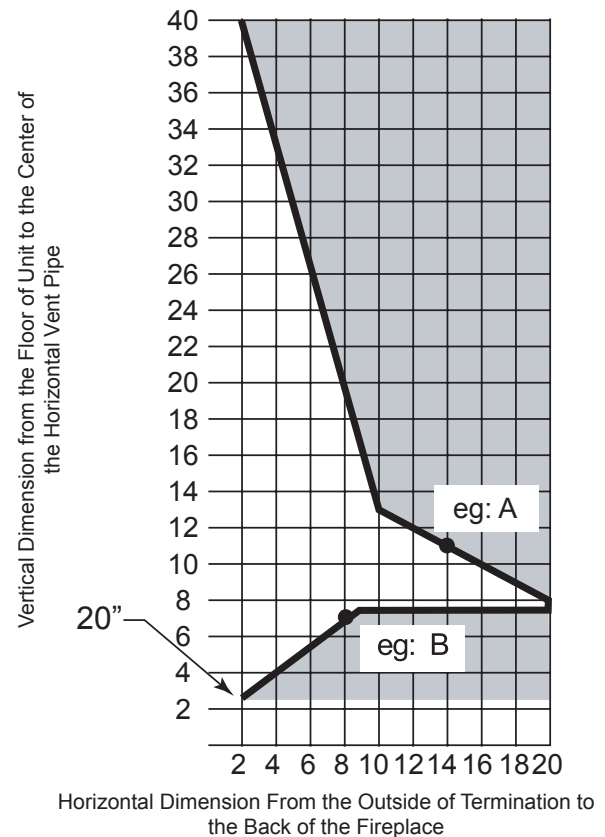

Figure 14 -
1. Determine the height of the center of the horizontal vent pipe exiting through the outer wall. Using this dimension on the Sidewall Vent Graph, *Figure 14*, locate the point intersecting with the slanted graph line.